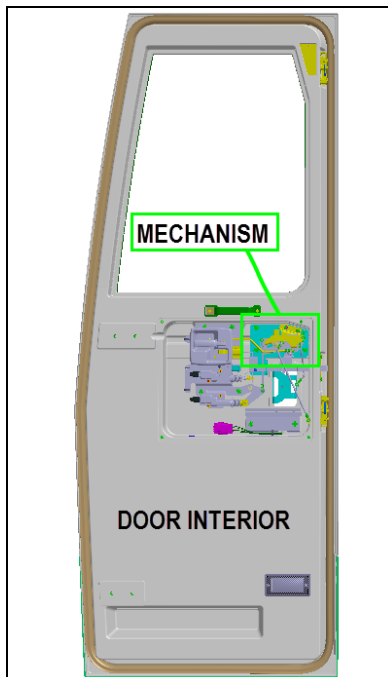

Fig.1
2. Locate the door locking mechanism and the five actuating rods connected to it (see Fig.1 and 2 below).